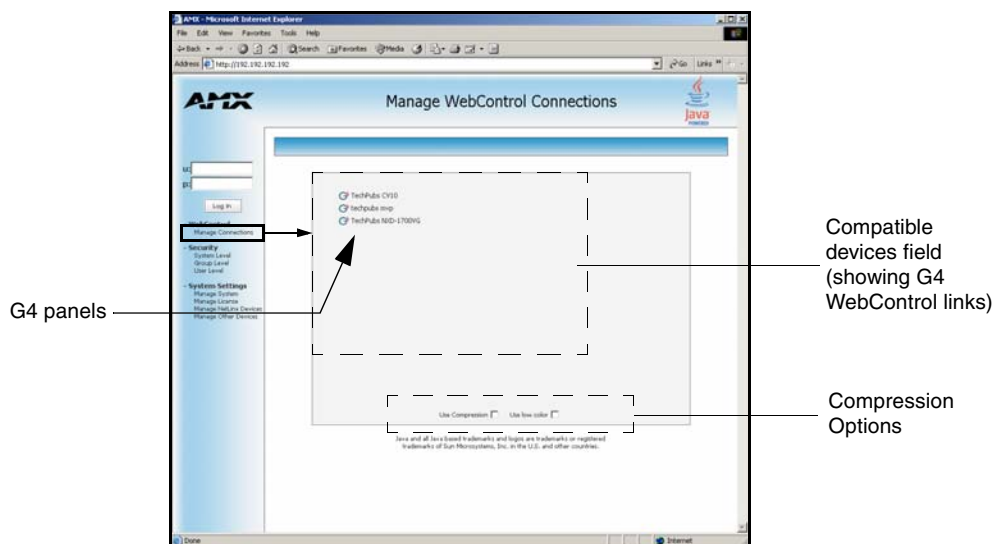

FIG. 74 Manage WebControl Connections page (populated with compatible panels)
5. This Manage WebControl Connections page (FIG. 74) is accessed by clicking on the **Manage connections** link (*within the Web Control section within the Navigation frame*). Once activated, this page displays links to G4 panels running the latest G4 Web Control feature (*previously setup and activated on the panel*).